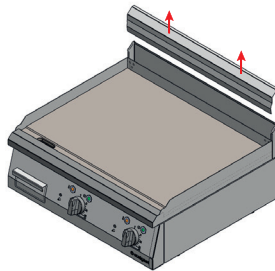

Figure 11. Disassembly of the flue cover.
- **Remove the flue cover of the grill hob by firmly pulling it with both hands up (Fig. 11).** Keep the cover for future reuse.